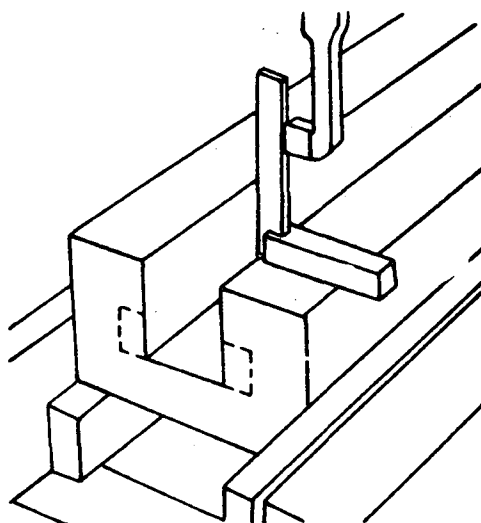

Fig. 4
- 2) The cutting tool should be in a vertical position (Fig. 4).